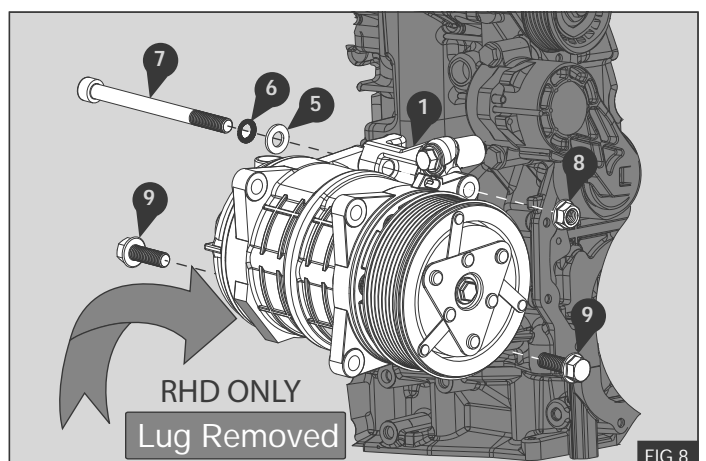

FIG 8
1. Fit the compressor to the mount bracket assembly ① fixing it with the two supplied bolts M10 x 30 ⑨ and cap screw M10 x 130 ⑦ with Schnorr safety washer ⑥, flat washer ⑤ and nut ⑧ - Fig 8